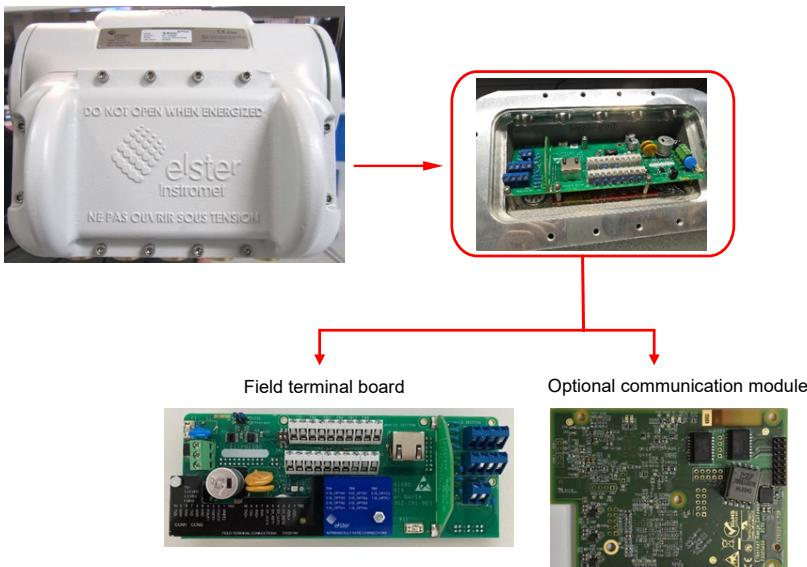

Fig. 1: Rear compartment and PCB boards
The rear compartment contains the following PCB's (⇒ Fig. 1):
3. After the power has been shut down wait at least 10 minutes before opening the rear compartment of the SPU (\Rightarrow Fig. 1).